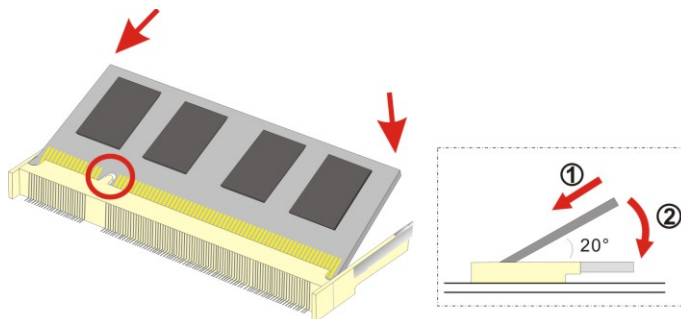

Figure 6-1: SO-DIMM Installation
Step 4: Align the new **SO-DIMM** with the socket. The SO-DIMM must be oriented in such a way that the notch in the middle of the SO-DIMM must be aligned with the plastic bridge in the socket (**Figure 6-1**).
Step 5: Insert the **SO-DIMM**. Push the SO-DIMM chip into the socket at an angle (**Figure 6-1**).
- Step 6:** **Open the SO-DIMM socket arms.** Gently pull the arms of the SO-DIMM socket out and push the rear of the SO-DIMM down. (See **Figure 6-1**)